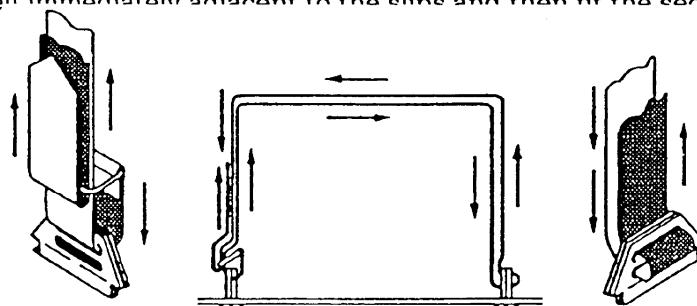

Fig 2.7 Securing Smaller Items of Equipment.
5. When smaller items of equipment are being fitted, secure the buckle end of the securing strap to the two clips as illustrated on Fig.2.7, position the equipment onto the shelf immediately adjacent to the sline and then fit the second pair of clips.